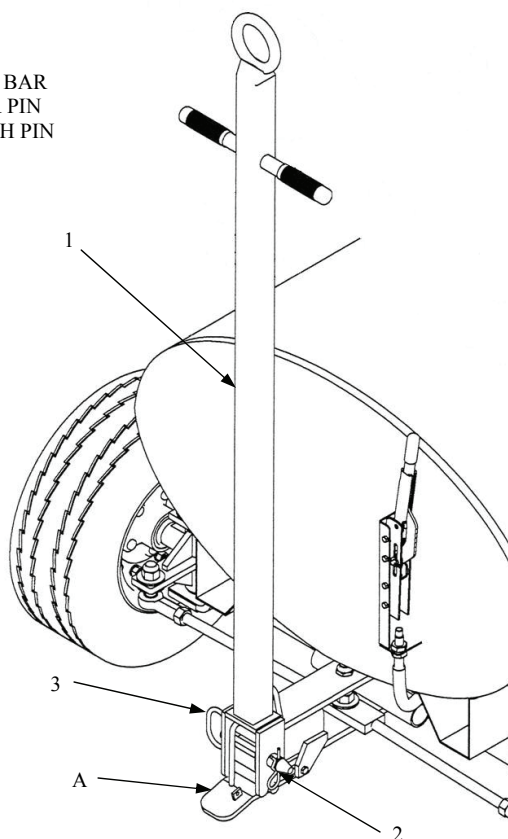

Figure 5-4. Tow Bar Removal
- c. Remove king pin (14) from yoke by using a rubber hammer.
- d. Grasp spindle assembly (18) and rotate toward front of tank until free of yoke. Remove spindle assembly from tie rod (15).
- e. Remove bushings (19) with bronze punch and hammer.
- g. Reassembly in reverse order. Nut (21) should not be tighten past snug.
5.3.3.4 Tow Latch Assembly. The tow latch assembly is used to secure the tow bar in the upright position. (See Figure 5-4).
- a. Remove tow bar (1) by placing the tow bar in upright, latched position. Remove hair pin (2). While holding onto tow bar, place foot on toe latch assembly (See reference arrow A) and depress.
- b. Pull hitch pin (3) from steering arm assembly and place tow bar to the side.